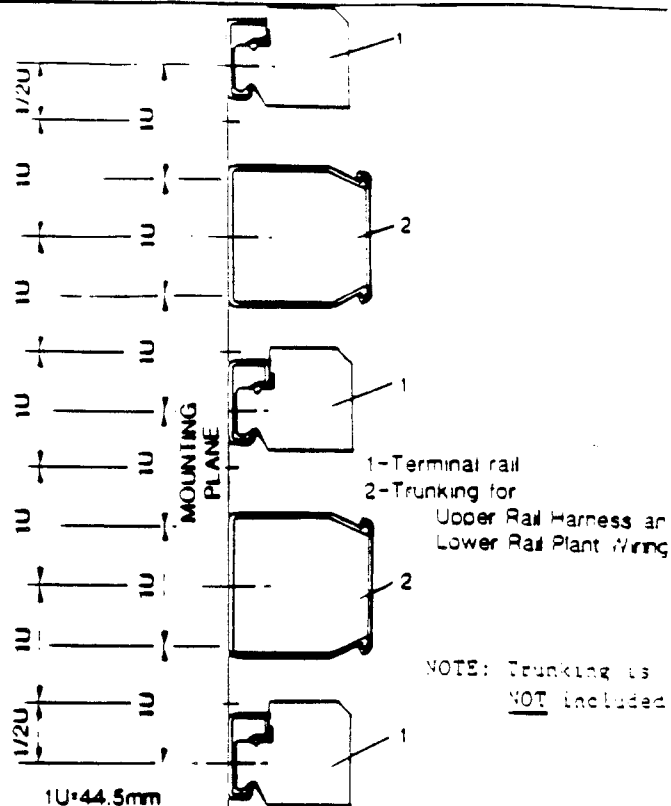

Fig. 6 - Termination Rail Mounting Details
1. Pair of sockets for measuring input signal, channel 0 (corresponds to inputs C0 or C32 at Fig. 6)
2. Pair of sockets for measuring input signal channel 15 (corresponds to input C15 or C47 at Fig. 6)